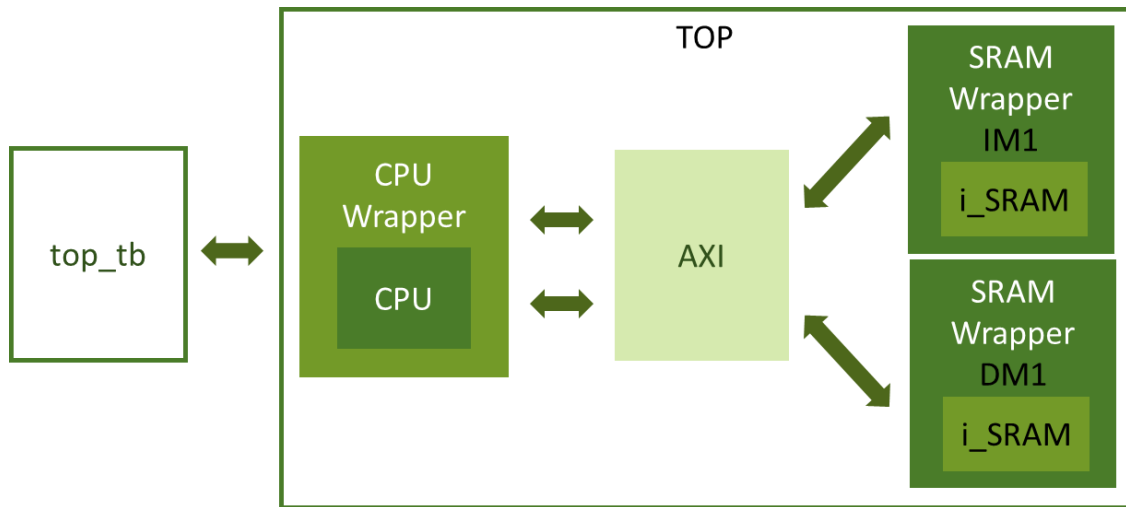

Fig. 2-1 Architecture of AXI with CPU and Memories
Combine AXI with your CPU in *Homework 1* to complete a mini system whose architecture is shown in Fig. 2-1.
- Connect the system as shown in Fig. 2-1. Your CPU should occupy two masters, one for instruction, and another for data. **IM must be Slave 1 and DM must be Slave 2. Start address of IM is 0x0000_0000 and start address of DM is 0x0001_0000.**